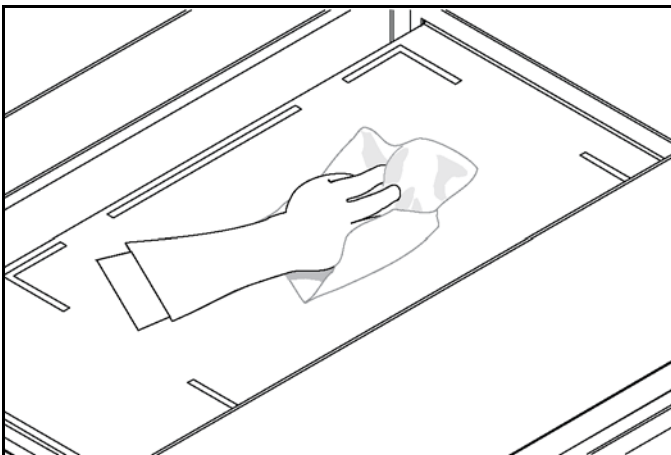

Figure-118
25. Using a sanitizer-soaked grill cloth, wipe the lower plate. See Figure-118.